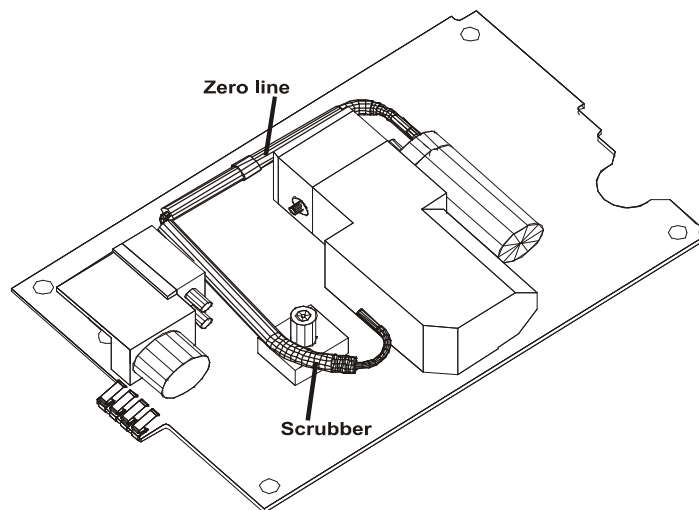

Figure 7-10: Zero line
5. Connect the Zeroline to its solenoid connector and place the scrubber close to the pump under the coiled main line tubing, refer to Figure. 7-10.